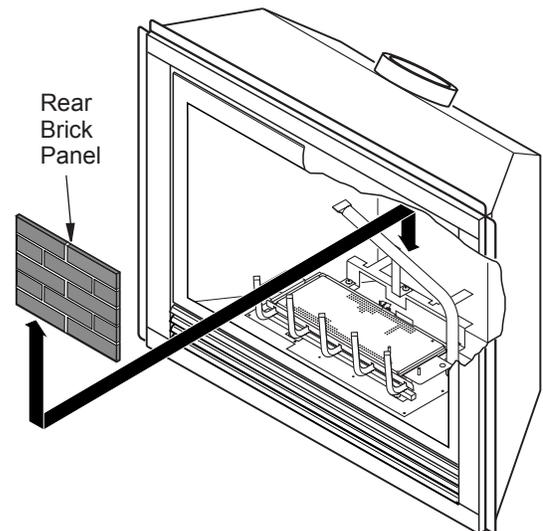

Figure 38 - Installing Brick Panels
5. Install rear brick panel first. Rest bottom edge of panel on back edge of grate (see Figure 38).